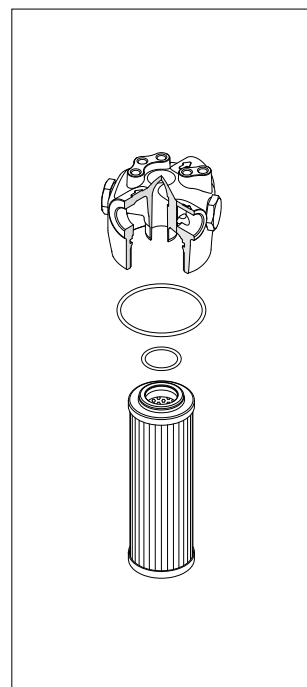

fig. 13
- (Fig. 13) Fit the O-ring in the head groove, insert the O-ring in the filter element cap.